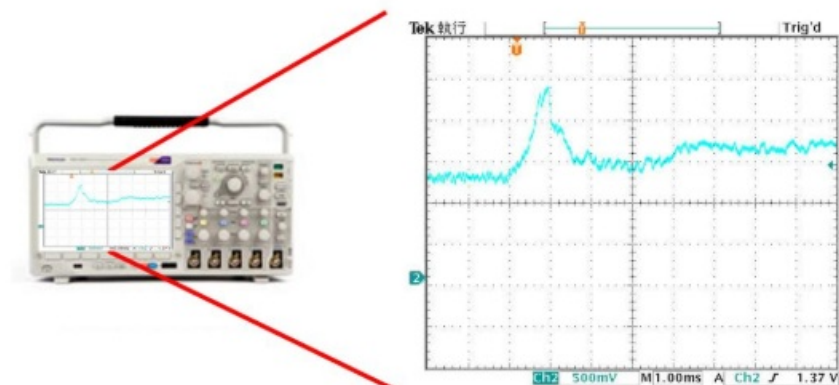

Figure 4. Capturing the required waveform segment with an oscilloscope
1. Connect the power supply with the actual load and run it, then use an oscilloscope to capture the required current waveform segment and save the file in .CSV format, as shown in Figure 4.